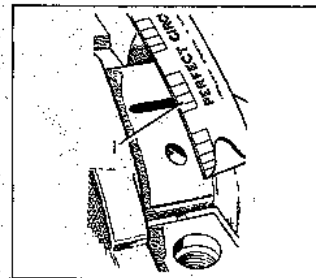

Fig. 1.11 Use Plastigage (1) to check the bearing clearances (Sec 31)
- 3 With a piece of the Plastigage laid on the top of each main bearing journal, (Fig. 1.11), refit the bearing caps as though reassembling. The inner bearing shells must be in position as well.